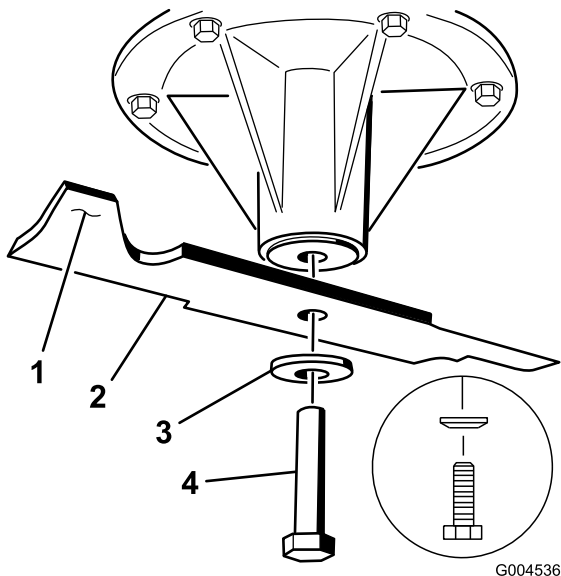

Figure 94
2. Remove the blade bolt, curved washer, and blade from the spindle shaft (Figure 94).